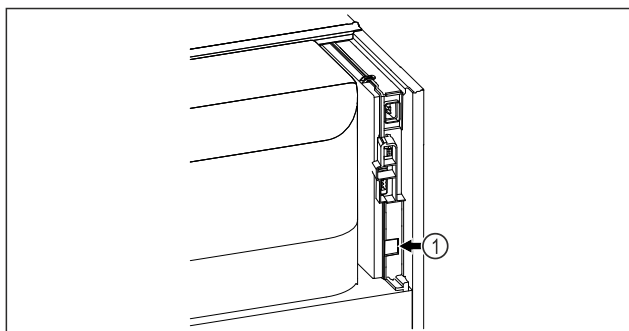

Fig. 109
- SmartModule Fig. 109 (1) is in use.